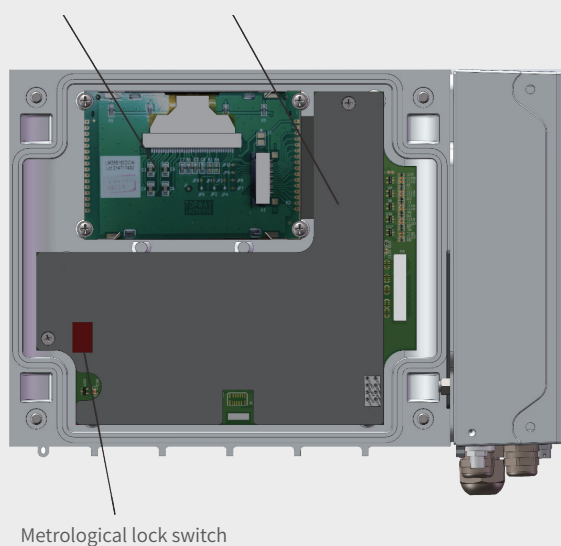

Figure 3 Internal structure of front cover
- Components in subplate at the bottom of the casing include input/output connector (including temperature sensor input, pressure sensor input, signal input, digital input and output, communication port terminal and external power supply terminal), battery(main battery and IoT battery), 4-20mA current output module and IoT module. The connectors related to metrology are protected by a special cover and fixed by a metrological sealing element. See Figure 3 and 4.